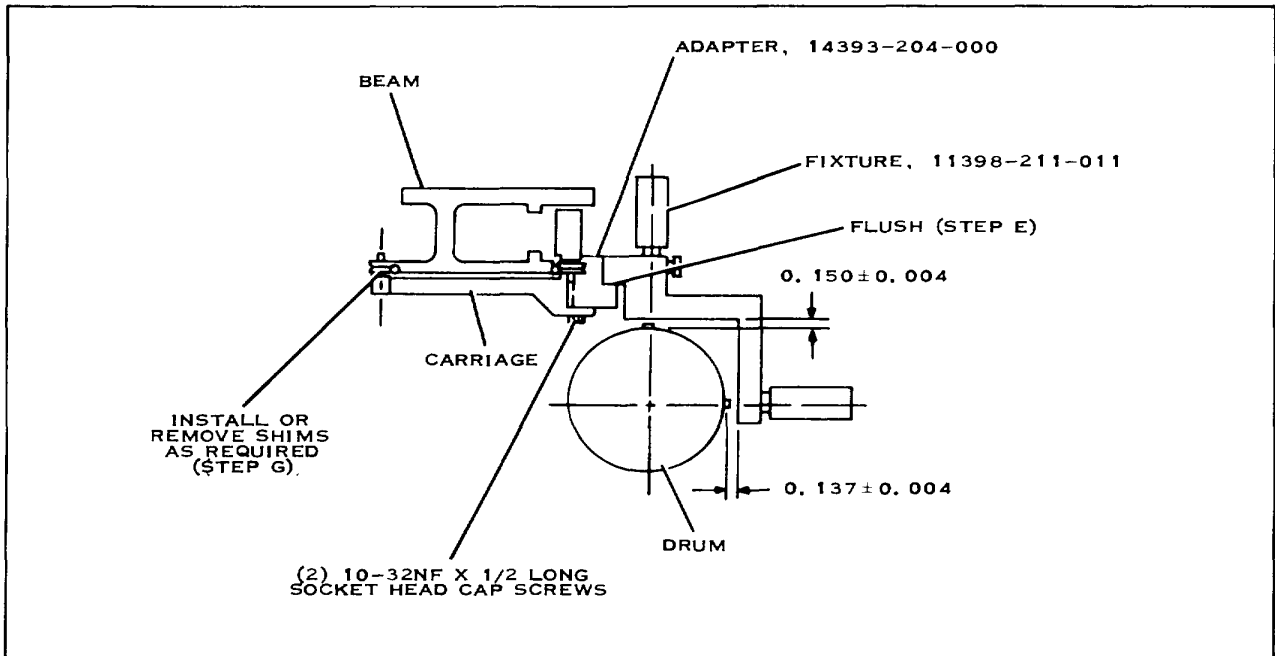

Figure 5-7. Beam Alignment
- f. Install fixture to adapter, making sure the fixture rests on the adapter pads before tightening thumbscrew. See figure 5-7.
- h. To adjust dimension of previous step, loosen carriage spring and move carriage up or down to improve reading. If enough adjustment is not available, remove shims under guide bearing to achieve the required dimension of beam carriage height. See figure 5-7.
- i. Check beam-locating indicator (side indicator). Dimension should be $0.137 +0.004$ inch at the extreme ends of the plotting area on the drum. See figure 5-7.